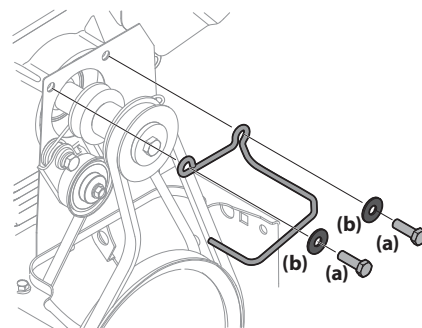

Figure 4-12
3. Loosen and remove two bolts (a) and flat washers (b) securing belt guide (if equipped). Remove belt guide. See Figure 4-12.